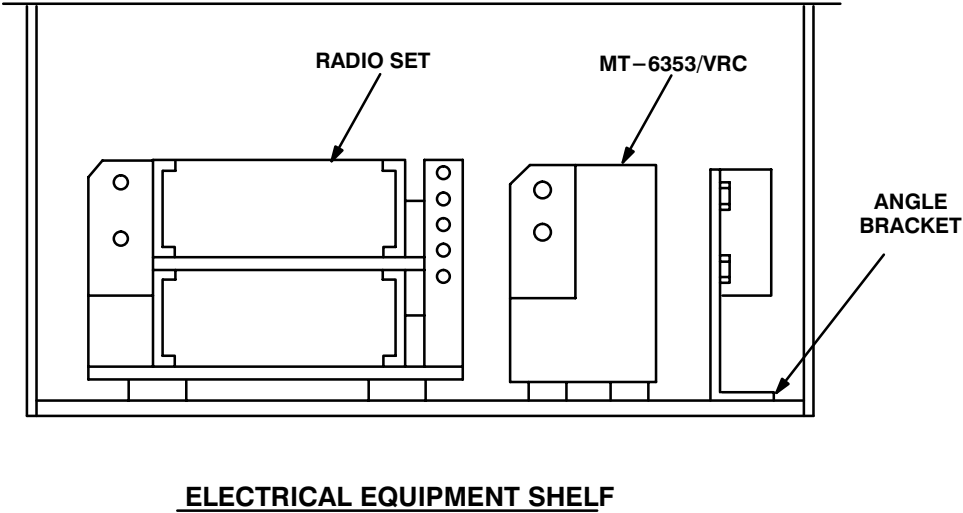

Figure 5-1 (2). MK and Radio Installation: Radio Equipment Locations
**5.1 Installation of Antenna AS-3900/VRC (antenna).** See figures 5-1 (1) for locations.
**5.1.1 Installation of Antenna Base.** Perform steps a through h to install rear antenna base. Perform steps i through m to install front antenna base. See Figure 5-1(1) for locations. Remove ground strap from antenna base(s).